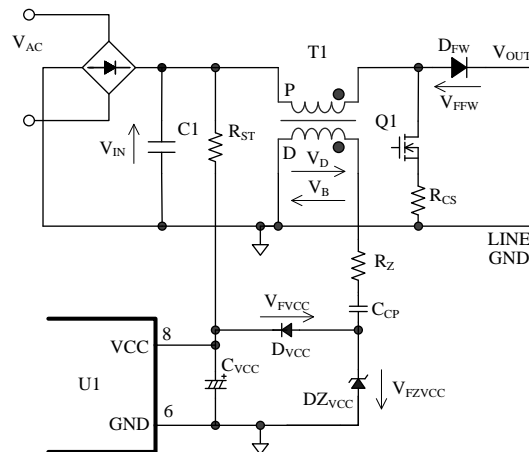

Figure 9-2 VCC pin peripheral circuit (Power supply from auxiliary winding)
When power supply of VCC pin is supplied from auxiliary winding as shown in Figure 9-2, the condition of N_D/N_p is necessary to satisfy both Equation (7) and following Equation (11).